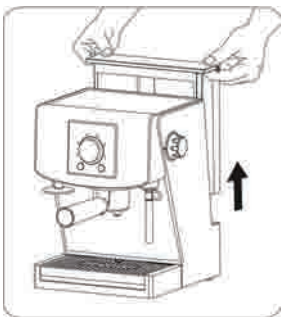

Fig. 11
- 13.3. Take off the water tank (1) and the drip tray (8) with the grid (7) from the espresso machine (Fig. 11).
- 13.23. Take off the water tank (1) and the drip tray (8) with the grid (7) from the espresso machine (Fig. 11).